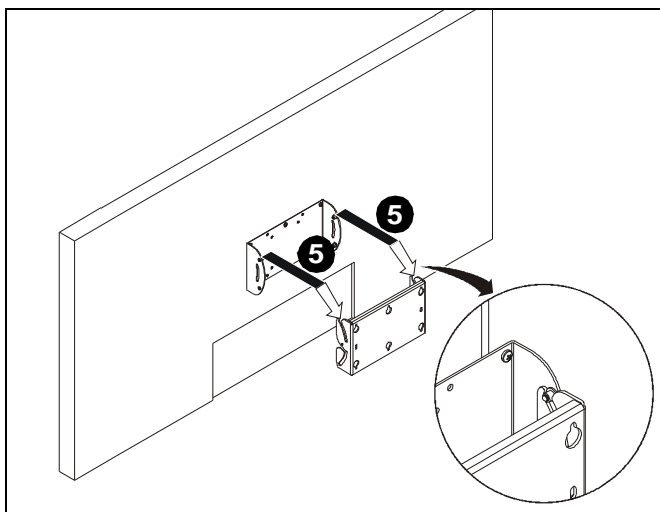

Figure 9
5. Insert upper screws on front plate into upper slots of wall bracket. (See Figure 9)